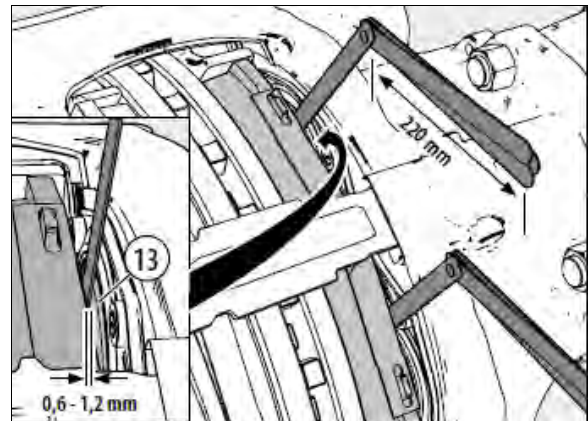

FIGURE 39: CHECK GAP BETWEEN TAPPETS AND INBOARD PAD
9. Set the starting gap by turning the adjuster (23) with the shear adapter (61) backwards and then forwards (note that when turning backwards a noticeable clicking can be heard and felt), until a value of 0.051 in (1.3 mm) air gap has been achieved (measure between the brake pad and tappets (13)).
11. Check the gap between each of the tappets (13) and inboard pad backplate (12). This must be measured over the whole tappet surface of both tappets using two feeler gages simultaneously (feeler gages must be at least 8 ½ in / 220 mm long) (see Figure 39).